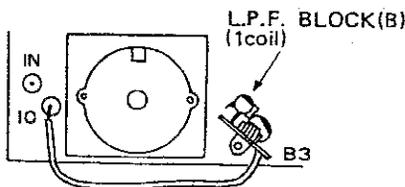

**Fig. 11**
6. Be sure coils for both subassemblies are positioned as shown in **Fig. 11** Tape insulate the metal enclosure to prevent shorting of these new components to the case.